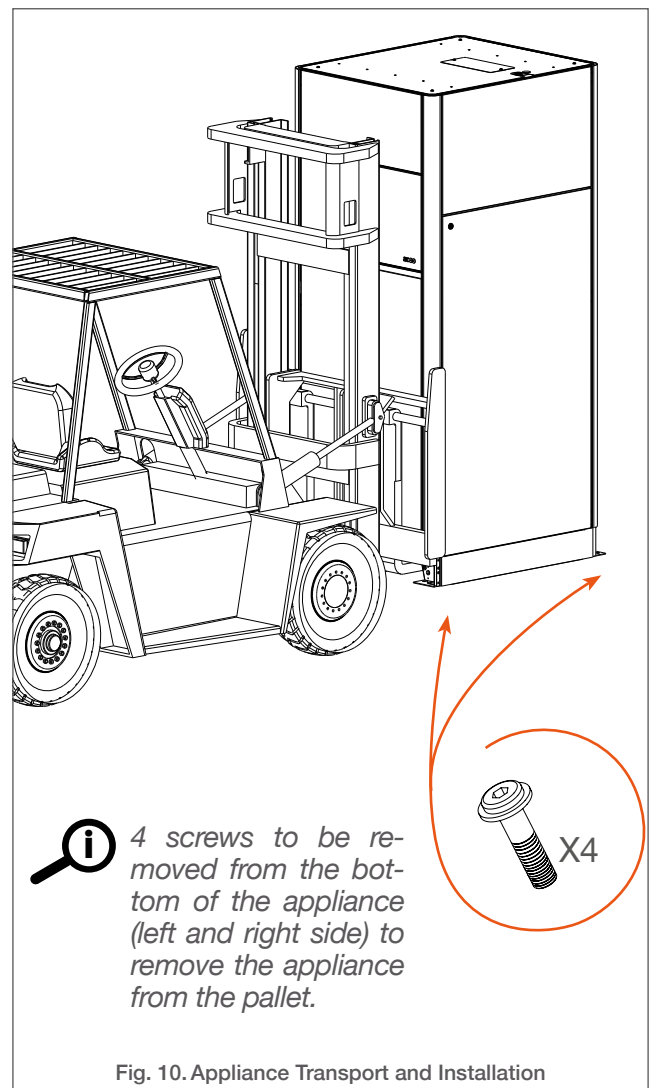

Fig. 10. Appliance Transport and Installation
3. Using a wrench with an hex head size 8, remove four screws (See **Fig. 10**) from the bottom of the water heater and the pallet.
2. Slide the arms of the fork lift underneath the appliance, from the front of the appliance (See **Fig. 10**).